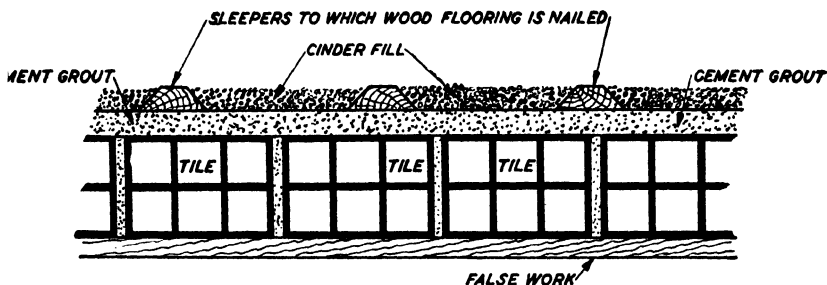
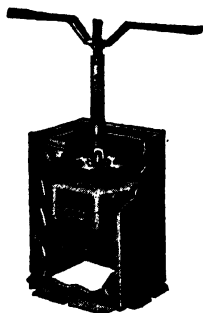

Fig. 69. Cross Section of Floor Construction, Using Hollow Tile
Fig. 70. A Tile-Arch Conduit Anchor Outlet Box
**Tile-Arch Construction.** In this type of floor construction the entire area is of tile, 12" or more in depth, with 2 or 3 inches of concrete over the tiles, see Fig. 69. Wood nailing strips or "sleepers," are laid on top of this, to which the finish floor is nailed, a cinder fill being placed between the sleepers under the finish floor. For this construction use a box assembly as shown in Fig. 70, which is similar to the one used for concrete slab and joist construction, with the addition of an adjustable extension to the fixture stud, terminating in a crossbar, with a sleeve to take the entire assembly.